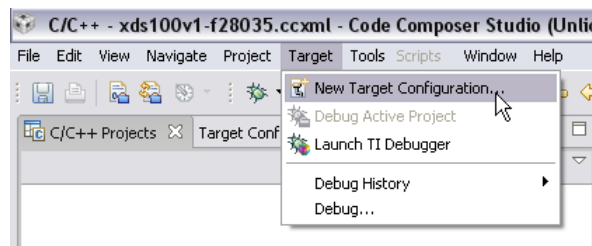

Figure 3. CCS New Target Configuration
5. Click Target → New Target Configuration (see Figure 3).